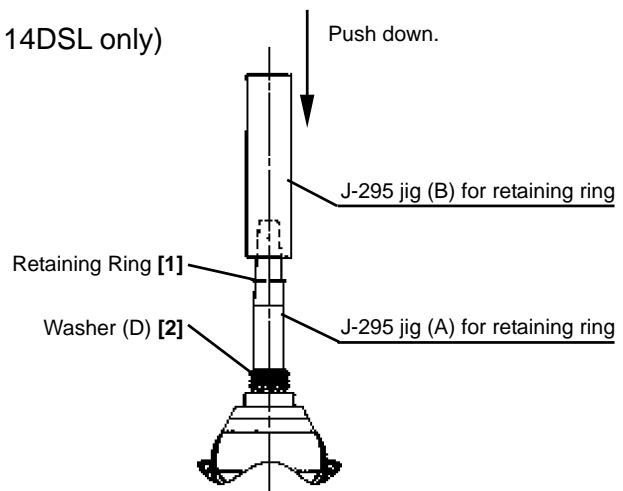

Fig. 23
(6) Mounting Guide Sleeve (D) [4] (Model WH 14DSL only)
Insert the two Steel Balls D3.5 [8] into the hole of Anvil (D) [9]. Mount Guide Sleeve (D) [4], Guide Spring (D) [3] and Washer (D) [2] in sequence. Mount the Retaining Ring [1] into the groove of the anvil using J-295 jigs (A) and (B) for retaining ring (see Fig. 23).
**Be sure to replace the Retaining Ring [1] with new one because the Retaining Ring [1] may be deformed and Guide Sleeve (D) [4] may come off if the deformed retaining ring is used again.**